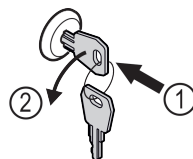

Fig. 182
- Insert the key. Fig. 182 (1)
- Turn the key anticlockwise by 90°. Fig. 182 (2)